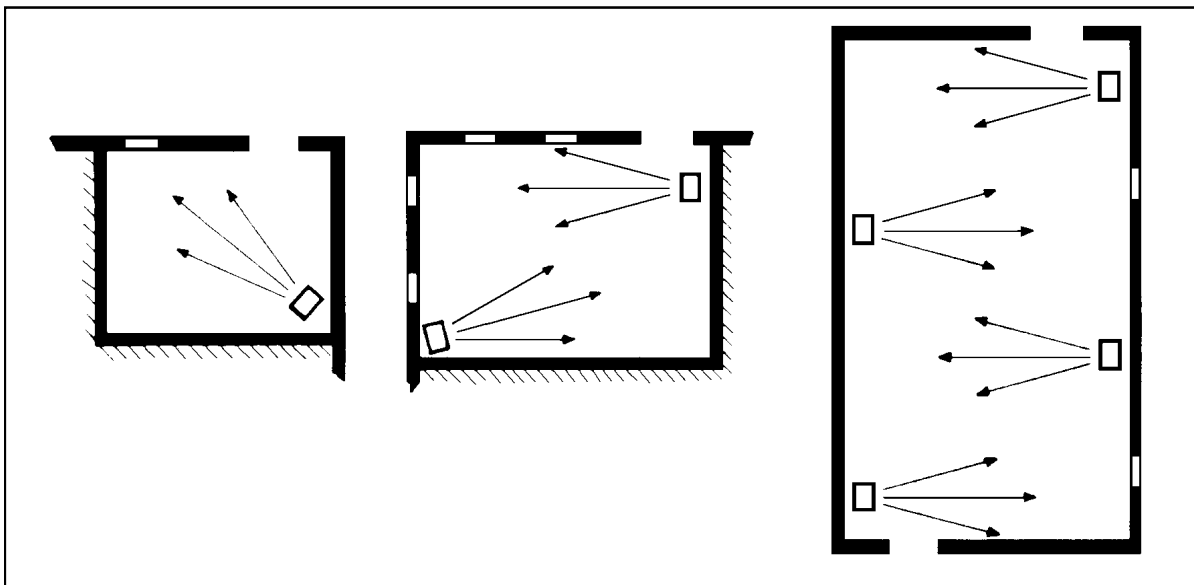

Figure 4
- For better heat distribution in the case of multiple unit installation, create alternate flows of hot air (see figure 4).